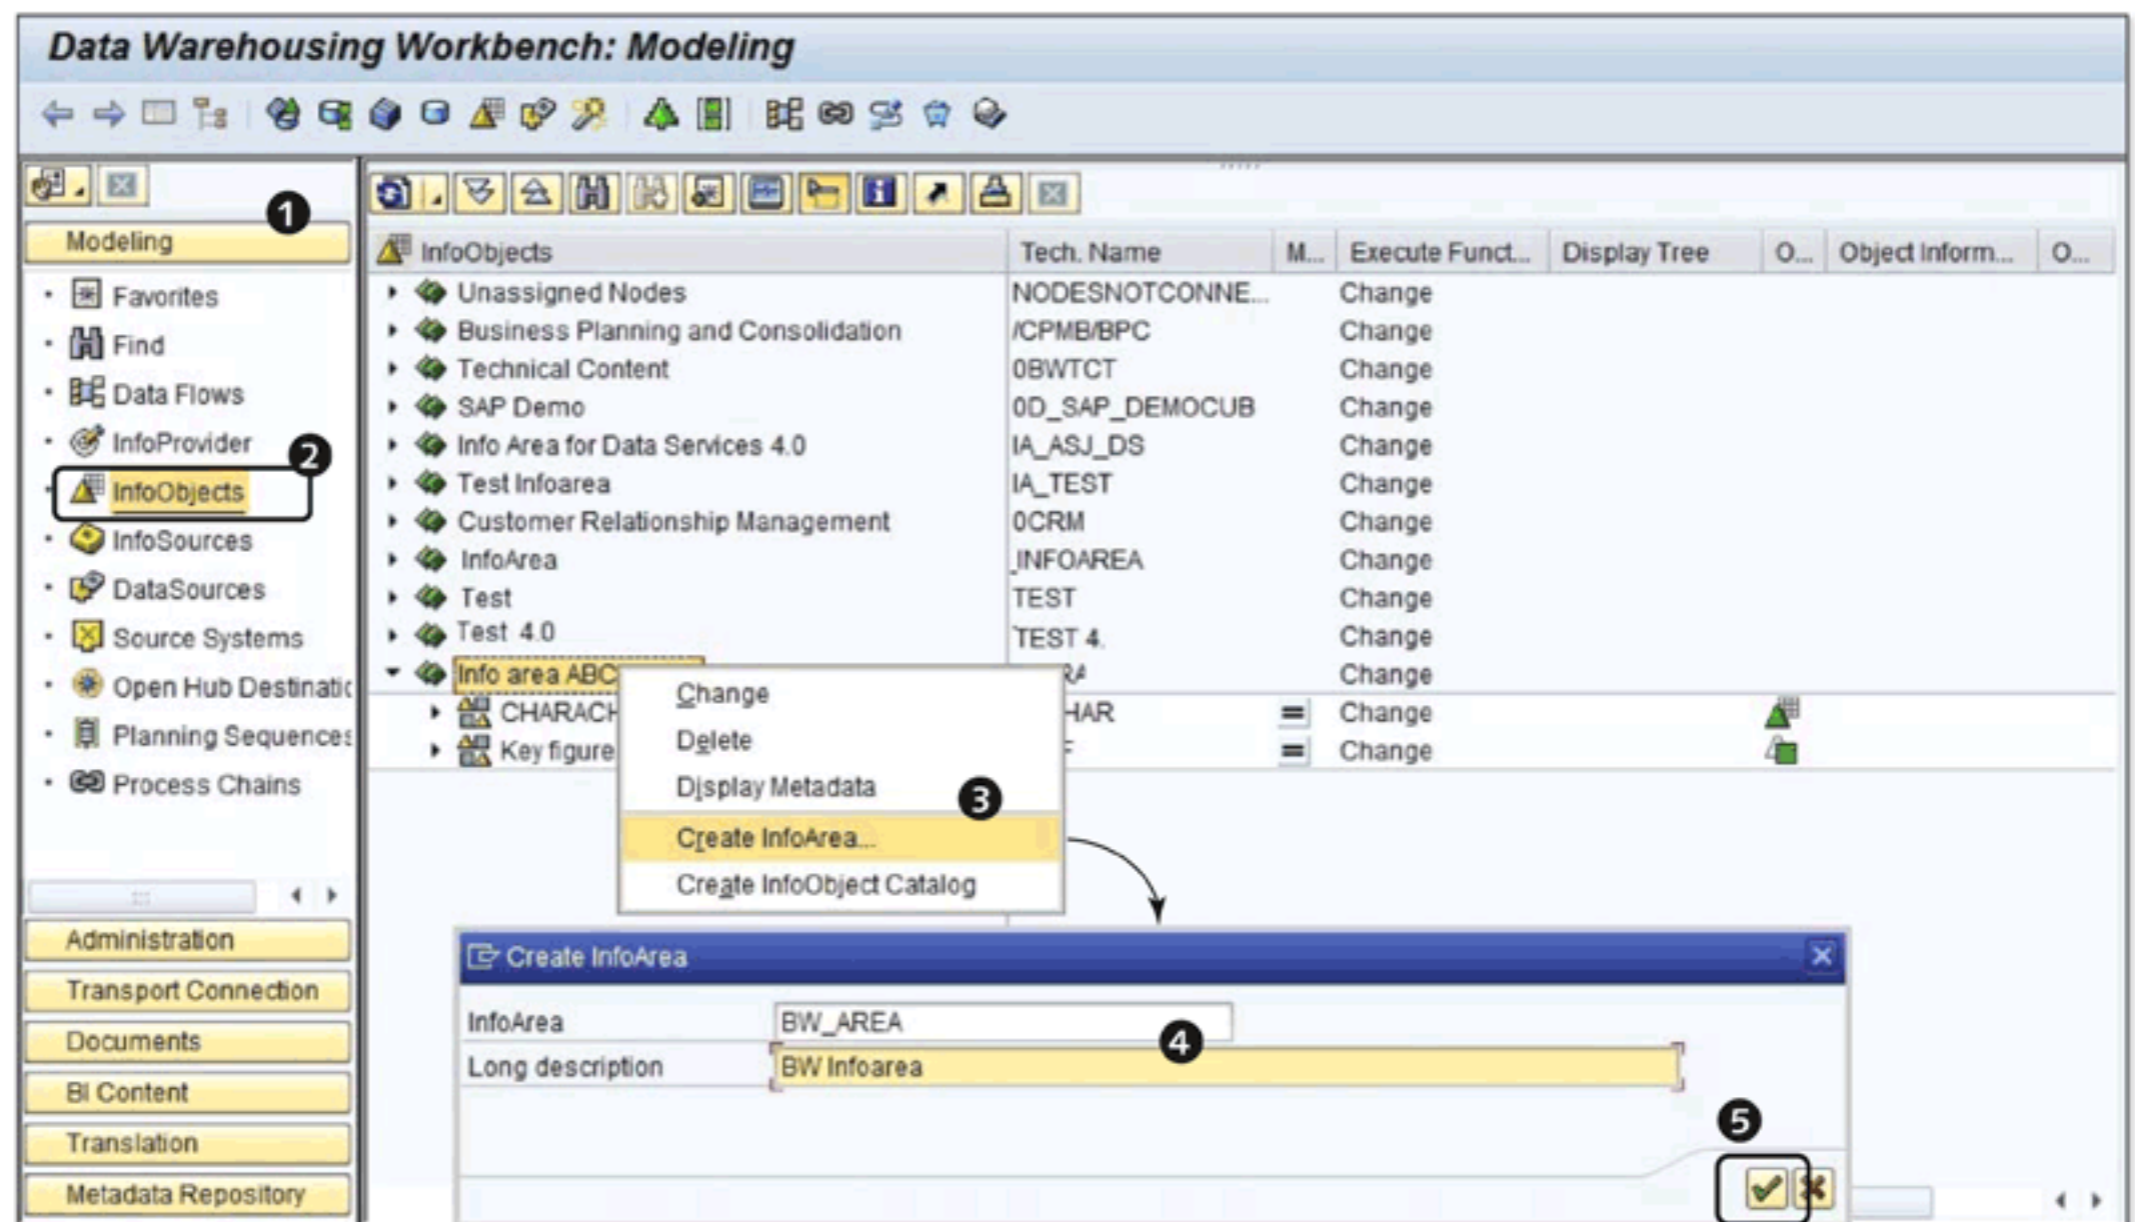

Figure 3.4 Selecting an InfoArea to Create InfoArea
2. Click on MODELING to start the modeling tasks of the DWW (❶ of Figure 3.4).
3. Within the modeling tasks, click on INFOOBJECTS (2). On the right panel of the screen, a tree structure displays existing InfoAreas arranged in a hierarchy (Figure 3.4).